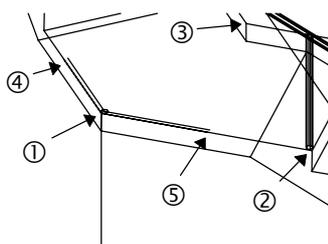
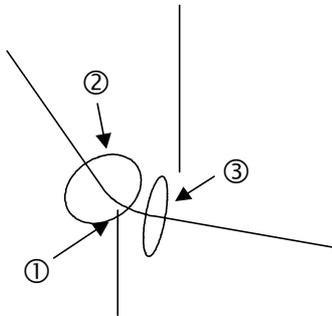

Figure 22
Figure 23
The next step is to construct the upstand element that will sit on the outer corner of the landing. Zoom in on the first landing, setting up a view like Figure 22. We will first set up the construction lines shown in that figure ...
- Also beginning at ①, construct two separate lines that terminate using the |NEArest| snap mode at roughly the positions ④ and ⑤ respectively (the length of these lines is not important).
- Construct a **20** radius circle, centred at the intersection of the two offset lines — *you should now have all the lines shown in Figure 22!* **Erase the two lines that intersect at the centre of the circle.**
- Now move the three lines that converge on ① so that the bottom point of the 900 long “vertical” line is positioned at the centre of the circle just created.
- Zoom in on the top of that re-positioned vertical line and use the *Fillet* command (still with radius 40) to construct a fillet arc between the two horizontal lines that converge at ① in Figure 23 — *now reset the fillet radius back to 0 since we won’t need that again!*
- Now re-position the UCS using the *ZAxis* option so that you can construct the circle at ② with radius 20 — then repeat that process to construct the 20 radius circle at ③.